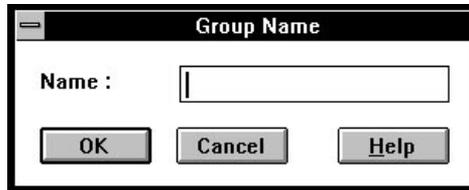

Figure 10-11 Group Name Dialog Box
2. To create a new group, click on **New** in the Groups group box. The Group Name box is displayed, as shown in Figure 10-11.